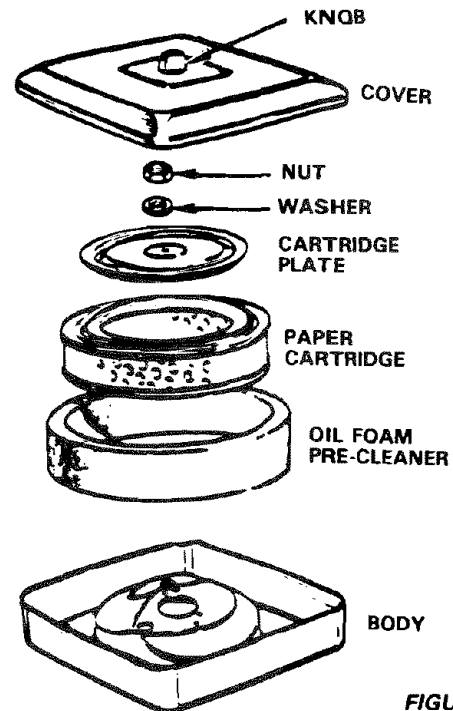

FIGURE 25
- a. Unscrew knob (Fig. 25) to remove cover.